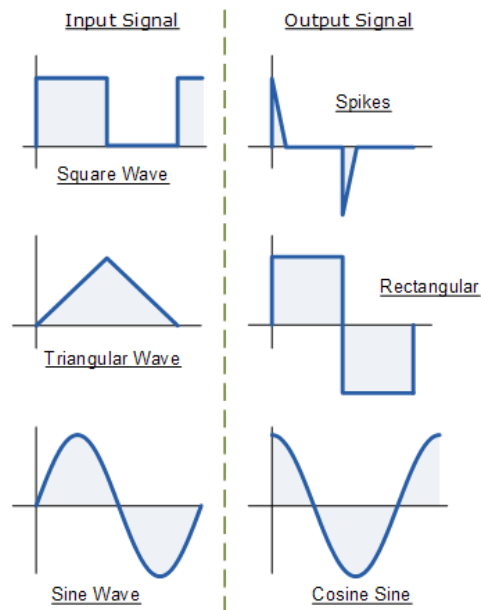

Fig.1
3. Apply square input waveform of Time period=20ms and observe spike output waveform as given in Fig.1.
4. Apply triangular input waveform of Time period=20ms and observe the square output waveform as given in Fig.1.